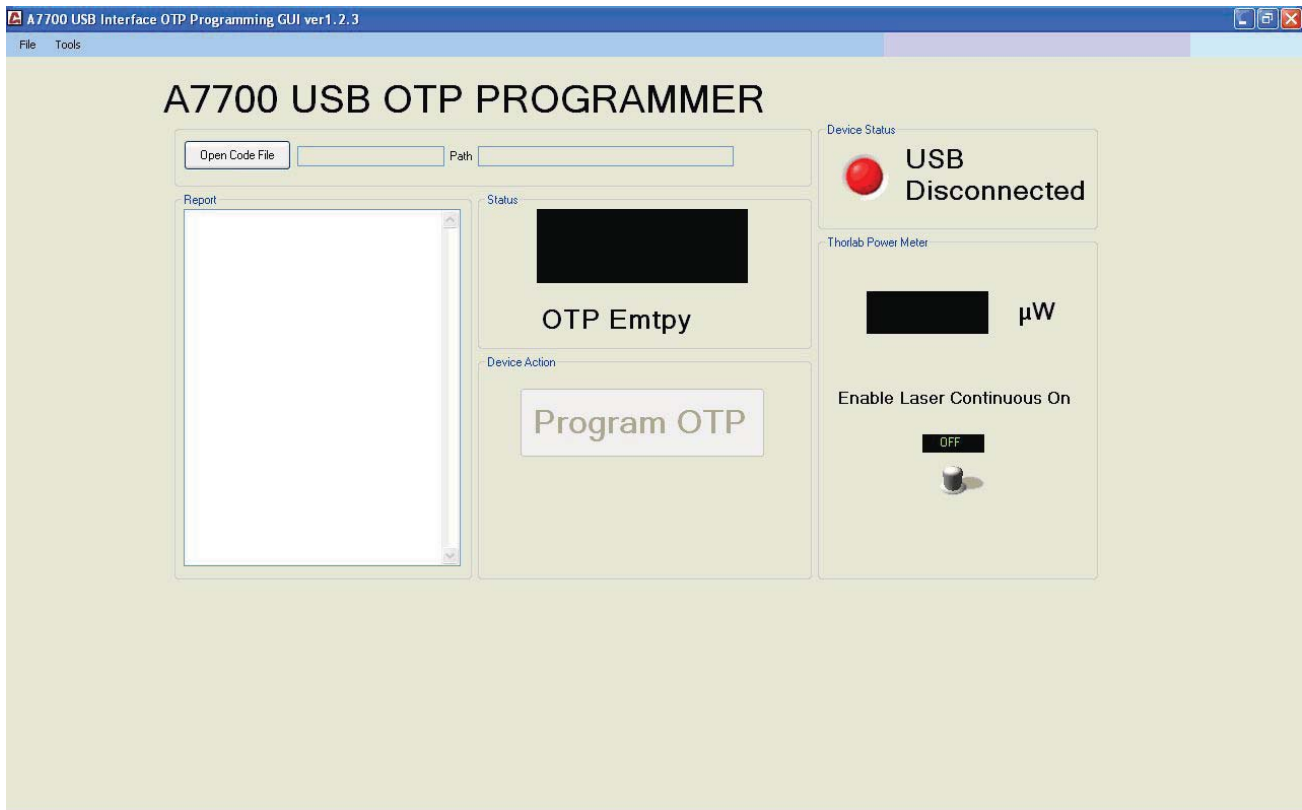

Figure 6. Default GUI
5. The default GUI as shown in Figure 6 will be loaded. The device status should show "USB connected" when the USB device has VID = 192F and PID = 0716 to recognize as ADNS-7700 sensor.